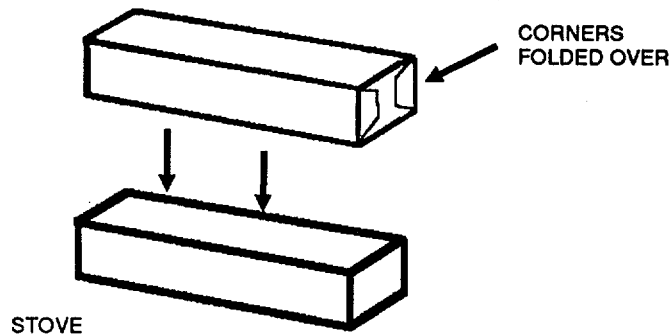

Figure 2-56. Aluminum Foil
- ah. Aluminum Foil. A piece of aluminum foil (See Figure 2-56) is enclosed with the pocket stove. When using aircraft fuel in the stove, fold the foil into the stove or wrap the outside of the stove, being careful not to tear the foil, and making certain that the foil covers the corner joints of the stove. Do this prior to filling the stove with soil and then aircraft fuel. If this is not done, fuel will run from the stove causing a fire hazard. Excess foil has many uses in a survival situation, (i.e., signaling, reflecting fire heat).